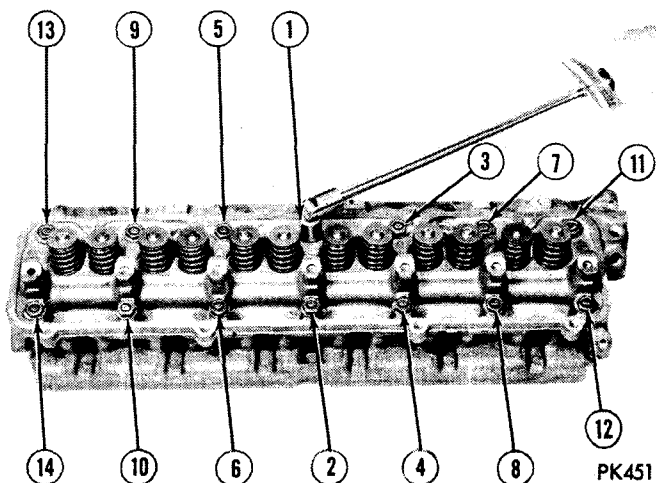

Fig. 6—Cylinder Head Tightening Sequence
(3) Install spark plugs, tighten to 10-foot-pounds.
(4) Coat new gasket lightly with Chrysler Sealer, Part Number 3419115 or equivalent. Install gasket and cylinder head.
(5) Install cylinder head bolts. Starting at top center, tighten all cylinder head bolts to 50 foot-pounds in sequence (Fig. 6). Repeat the procedure, retightening all cylinder head bolts to 65 foot-pounds. **Do not tighten cylinder head bolts after the engine has been operated when embossed steel head gaskets are used.**